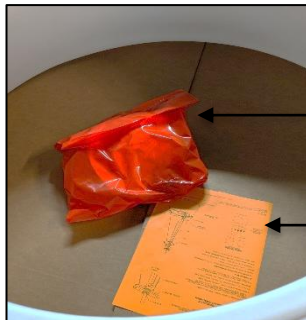

FIG.6 RED BAG AND
5. INSTALLATION INSTRUCTIONS (shown in FIG. 6) - Please completely read the install instructions before starting installation.
6. RED BAG (shown in FIG. 6) contains below following items: